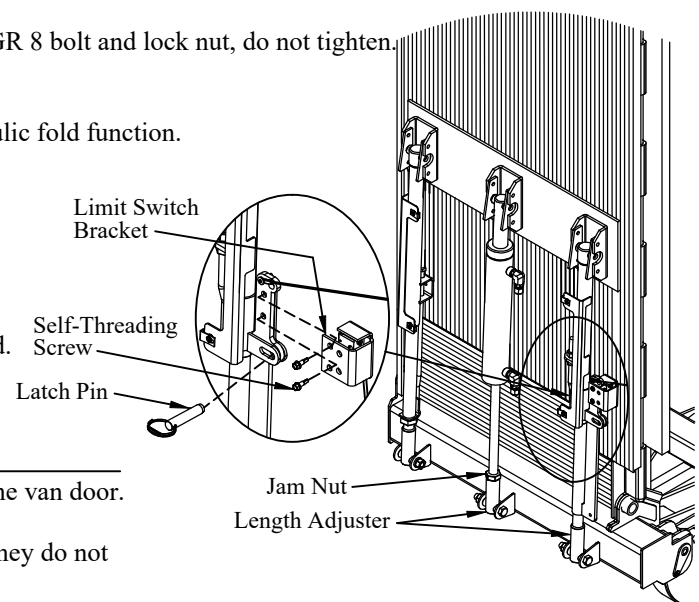

Figure 15: Platform latch and adjustment.
4. **Install** the limit switch bracket on the passenger side support arm with two (2) #12 self-threading screws. See Figure 15 for bracket shipping location. Make sure that the limit switch is not in the pushed position (Figure 15).
3. **Support** the platform to keep it from falling or hitting the van in the next steps (Figure 15).